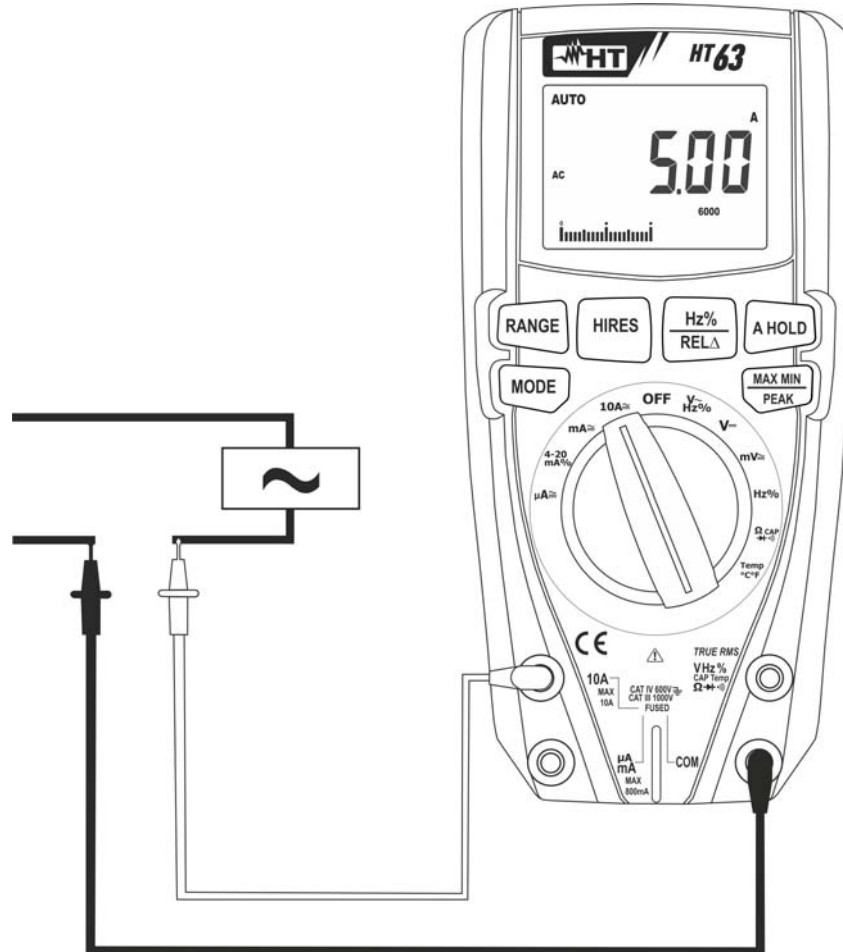

Fig. 10: Use of the instrument for AC current measurement
5. Connect the red lead and the black lead in series to the circuit whose current you want to measure (see Fig. 10).